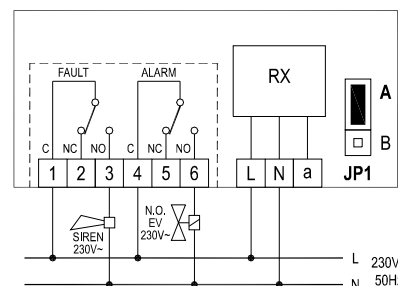
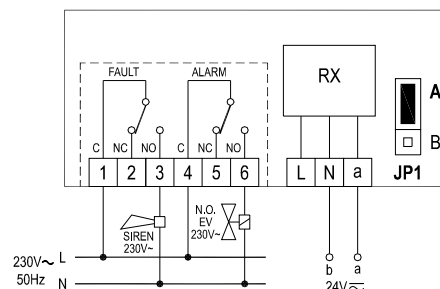
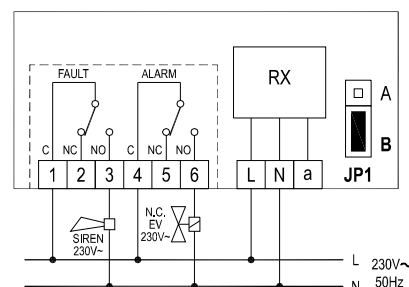

Fig. 9
Fig. 10
Fig. 11
- 7 Make electrical connections according to the wiring diagram in Fig. 9, 10, 11 or 12 and the paragraph "Electrical Connections".
Figures 9 and 10 shows how to connect a normally open electrovalve (N.O.) that will be powered when the "alarm" output is activated, i.e. when the transmitter sends the "alarm"
Figures 11 and 12 shows how to connect a normally closed electrovalve (N.C.) that, in absence of alarm condition from the detector transmitter, will be always powered. The N.O. "alarm" relay contact is used and set with reverse logic (**JP1** jumper on position **B**). When the transmitter sends the "alarm" command to the receiver, the "alarm" output will cut the power supply to the electrovalve. In each example of figures 9, 10, 11 and 12 show how to connect an audible warning device to the "fault" output (Fault). The outputs, terminals 1 to 6, are voltage free and insulated with reinforced insulation towards the other circuits of the receiver. Therefore, a receiver can be supplied with SELV low voltage (24V~), while controlling a high voltage load (230V~), as shown in Fig. 10 or 12.